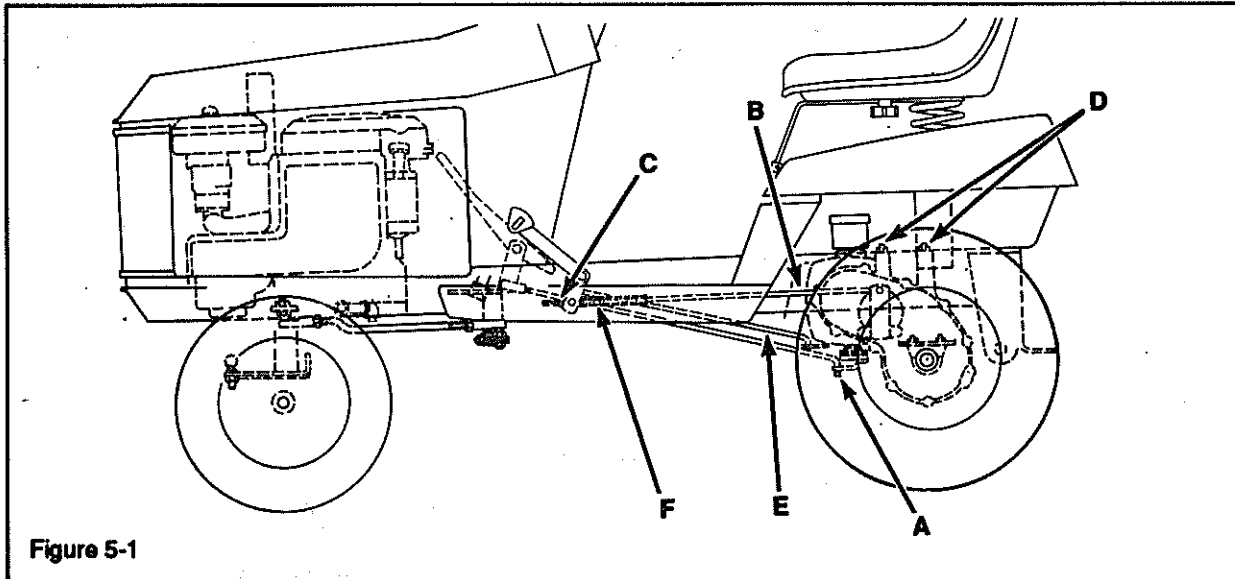

Figure 5-1
- Disconnect hydrostatic shift rod (A, Figure 5-1) at hydro arm.
- Disconnect brake rod (B) at pedal, point (C).